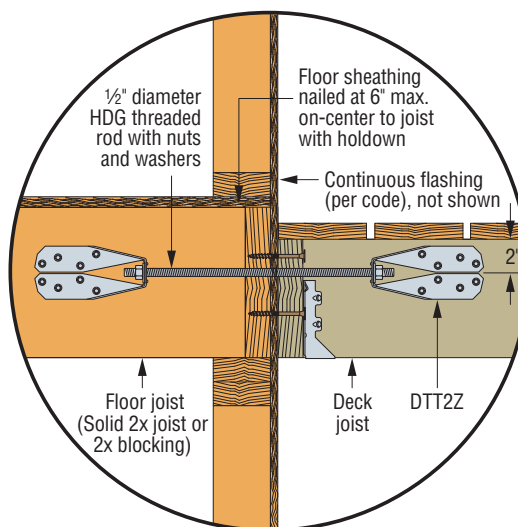

Figure 1
- Where the lateral-load connection is permitted to be installed per Figure 1, holdown tension devices shall be installed in not less than two locations per deck, within 24 inches of each end of the deck, and have an allowable stress design capacity not less than 1,500 lb.